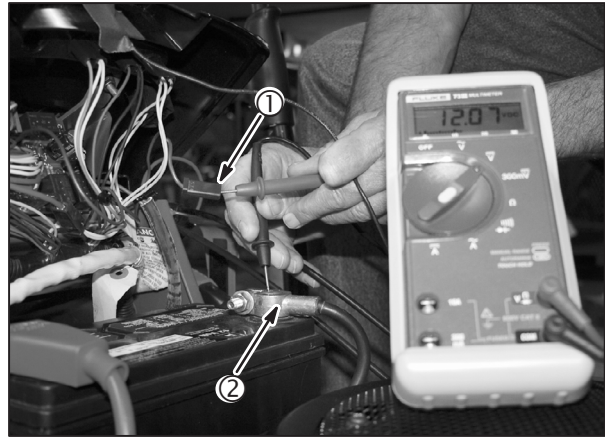

Fig. 36
- Insert RED meter test lead into the brake interlock switch wire connector (1), **Fig. 36**.
- Attach the BLACK meter test lead to the **NEGATIVE** battery terminal (2).